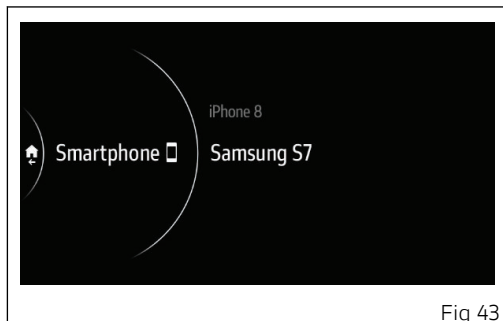

Fig 43
- As soon as the search stage is over, the display shows a list of all detected devices (Fig 43). Use the joystick (UP ▲ and DOWN ▼) to select the desired device and press the joystick in the middle or in the RH ► position.